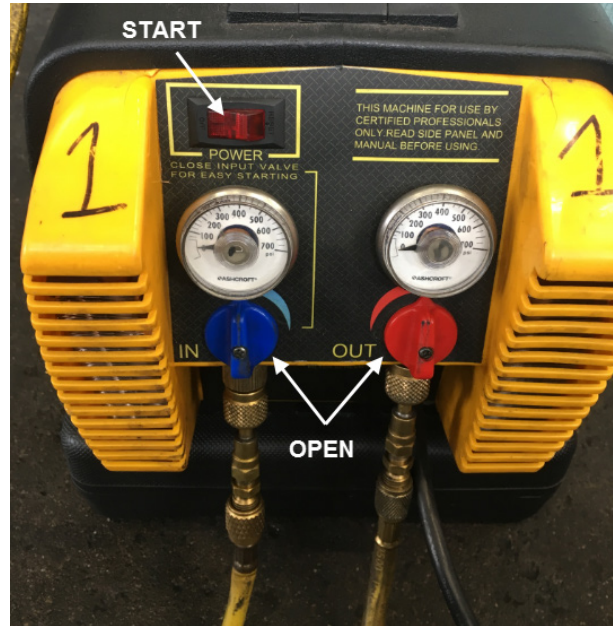

FIGURE 10: RECOVERY STATION OPEN VALVES
- Open the inlet and outlet connection of the recovery station (figure 10).